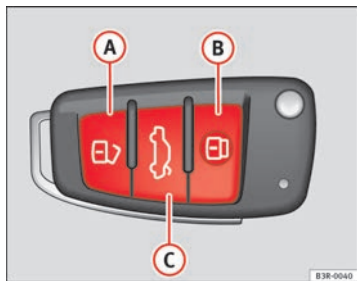

Fig. 77 Remote control key: Control buttons
- Press button  ⇒ fig. 77 for about 1 second.